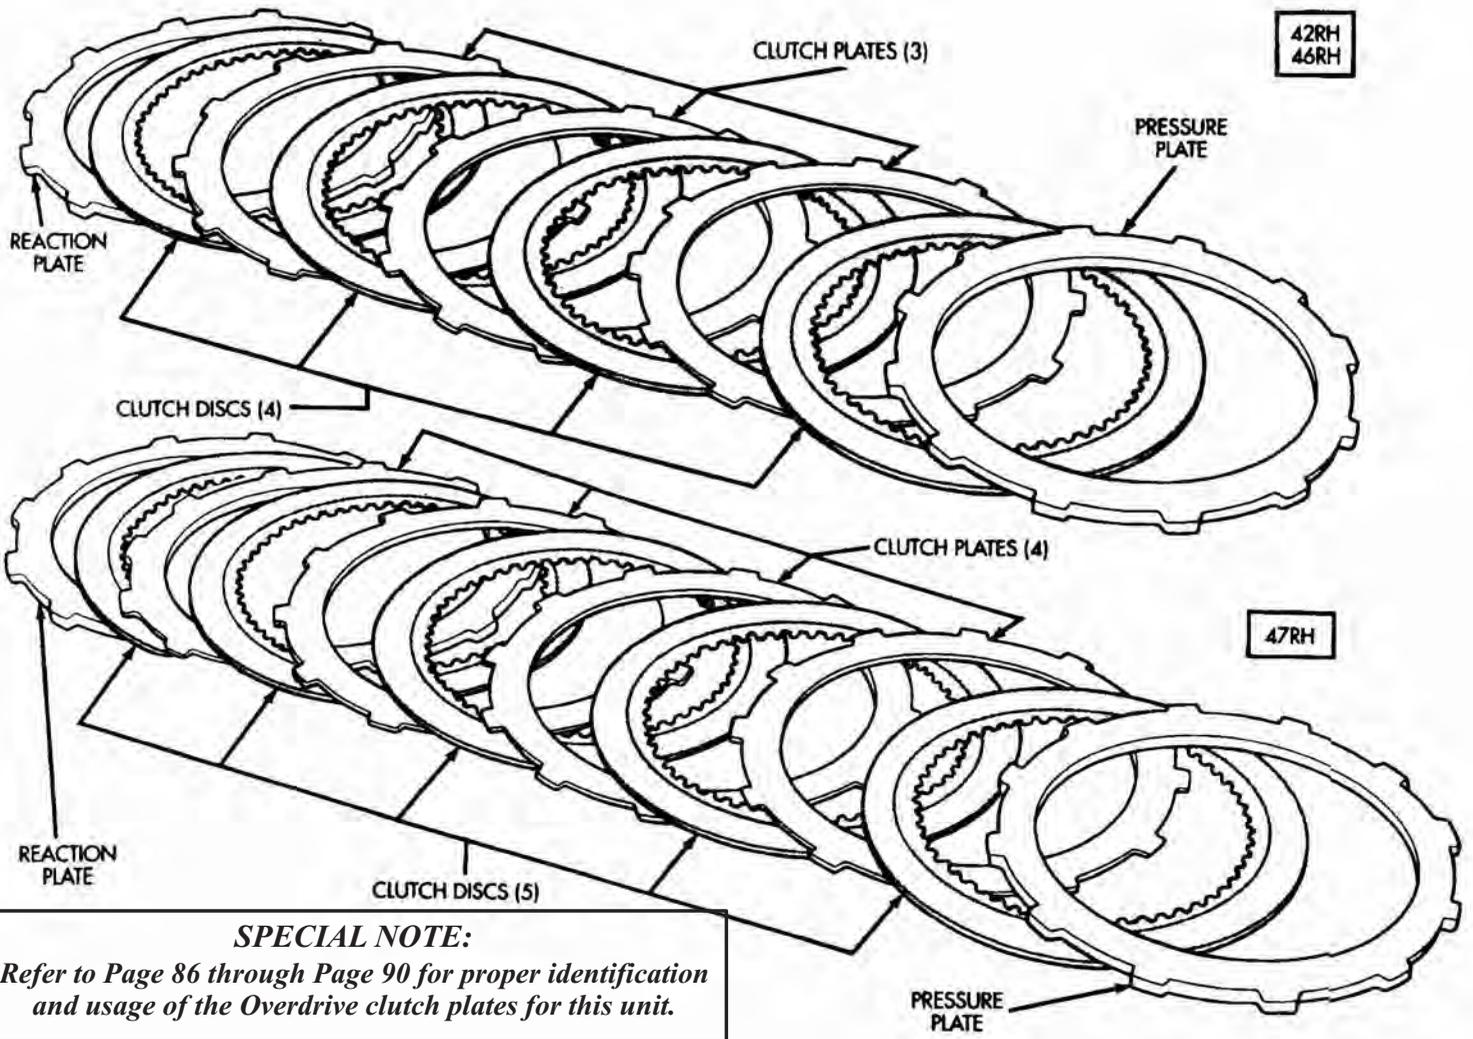

Fig. 76 Overdrive Clutch Pack Components
- (1) Verify clutch pack before proceeding (Fig. 76).
(2) Install overdrive clutch components as follows:
(c) Install reaction plate (Fig. 76).